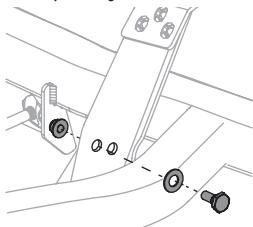

Figure 36
- Remove the hex bolt, washer and hex nut near the center of the pedal assembly. See Figure 36.
- Re-install the hardware previously removed and torque the nut to 28-35 ft-lbs (38-47 N-m). See Figure 36.